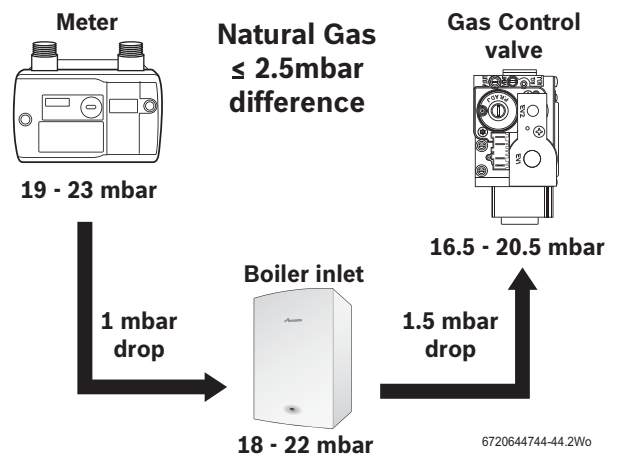

Fig. 54 Natural gas pressures
- ▶ Check the gas supply working pressure at the gas valve conforms to values shown in Fig. 54 or Fig. 55.